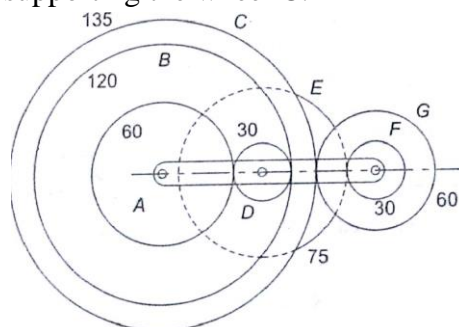

Figure 3
b) Gear Train shown in Fig.3, in which gears D-E and F-G are compound gears. D gears with A and B; E gears with F; and G gears with C. The numbers of teeth on each gear are  $A=60$ ,  $B=120$ ,  $C=135$ ,  $D=30$ ,  $E=75$ ,  $F=30$ ,  $G=60$ . If the wheel A is fixed and the arm makes 20 revolutions clockwise, find the revolutions of B and C. 14